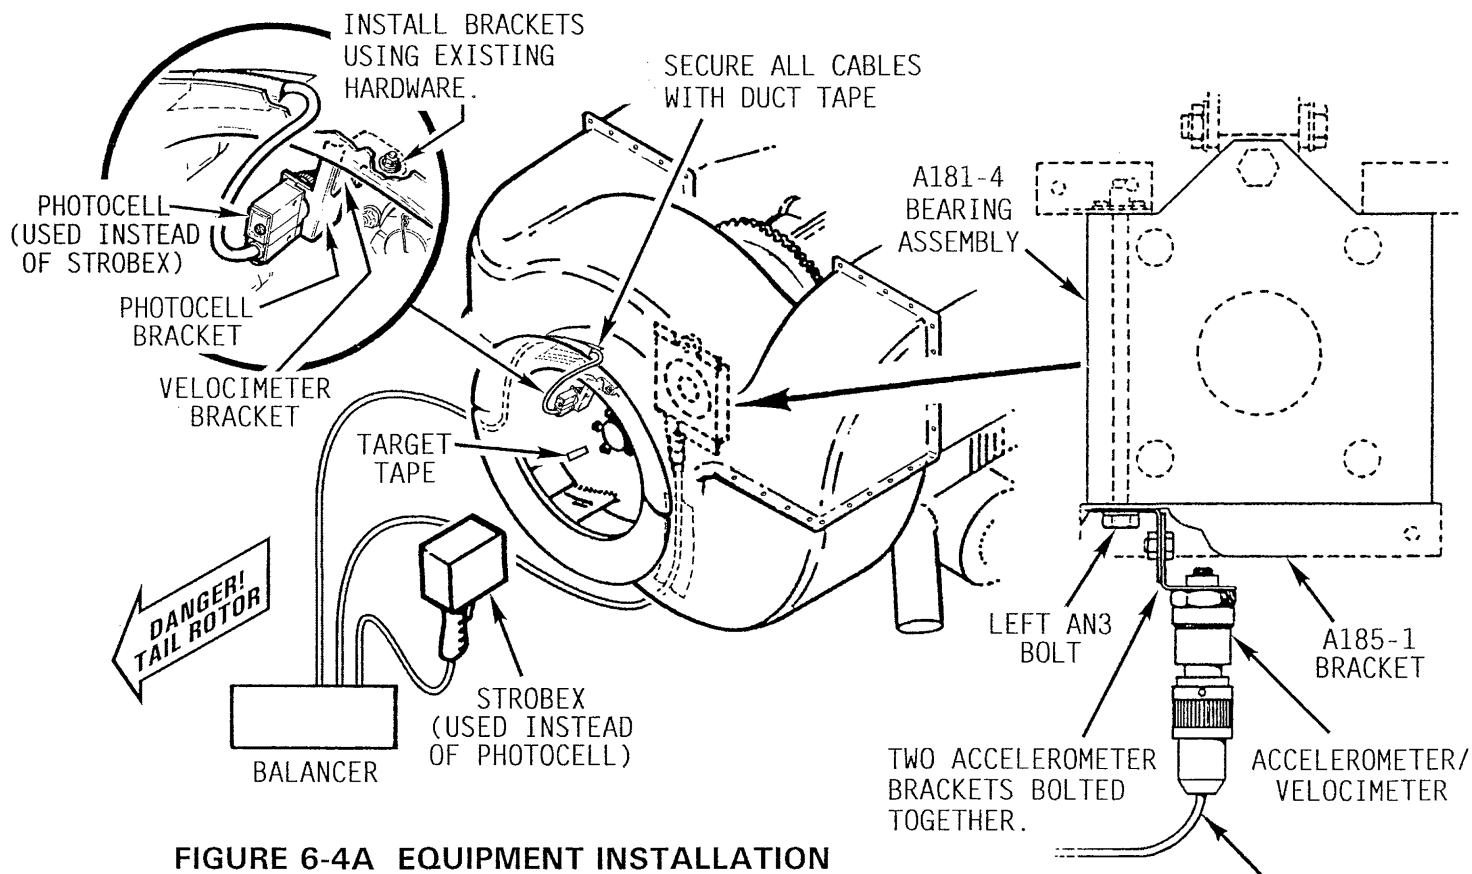

FIGURE 6-4A EQUIPMENT INSTALLATION
- a) Install accelerometer on lower actuator bearing left bolt per Figure 6-4A. Accelerometer wire should be pointed down. A suitable bracket may be assembled from two accelerometer brackets or may be fabricated.
- b) Place 4270 target tape at one fan vane edge per Figure 6-4A.